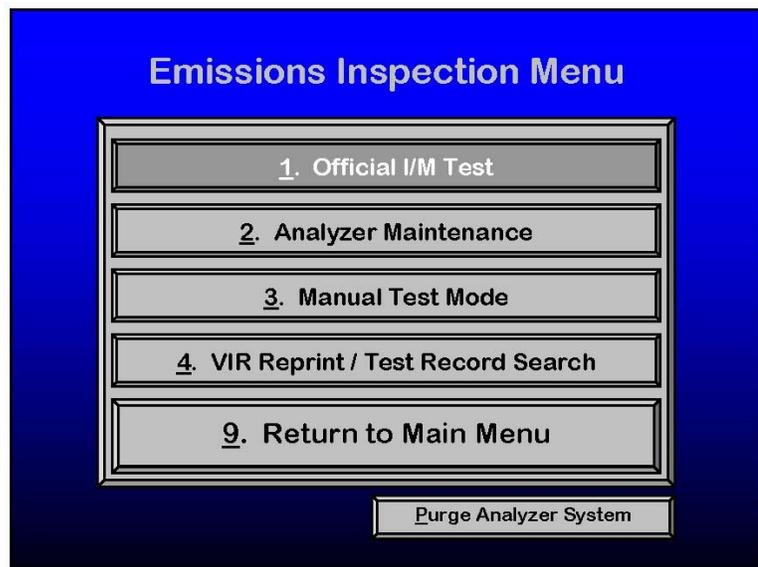

Figure 9 Emissions Inspection Menu
1. See Figure 9 Allows an Official I/M Test to be performed by Air Care Inspectors authorized by VPM. An Inspector number and password are required.